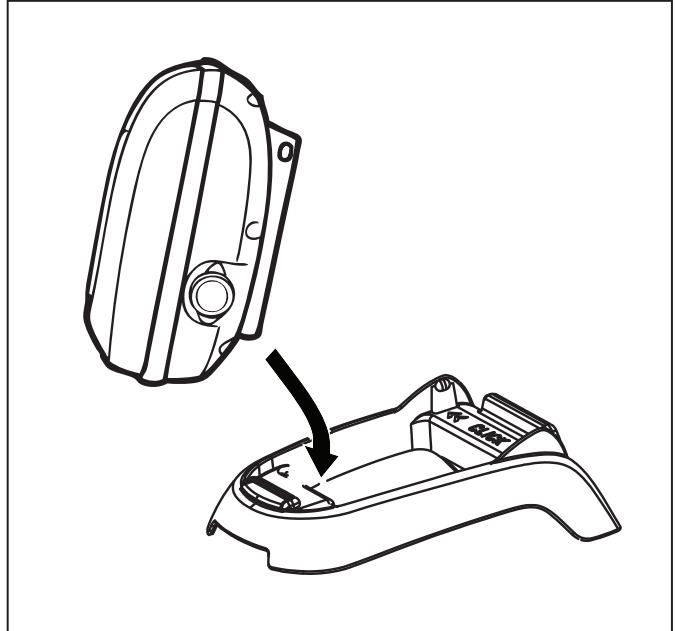

Figure 1. Attach Control box to Base
1. Align the bottom of the control box with the notch in the base (see Figure 1).
- Store the cleaner out of direct sunlight or inclement weather. Store the control box on the base as shown in Figure 1.
**NOTE:** Store the VX42 cleaner out of direct sunlight or inclement weather. Store the control box on the base (see Figure 1).
5. Push the cover lock (1) and lift the cover (2) until it is secured in the vertical position. (Figure 1).